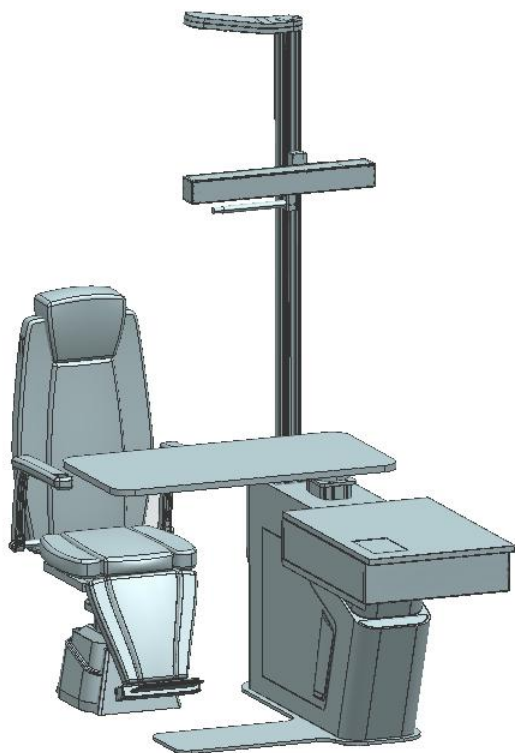

Figure 5
⑨The final basic assembly complete reference shape, see Figure 5.